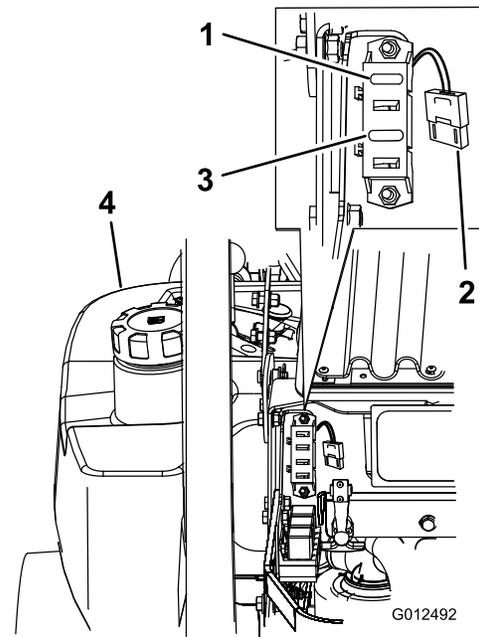

Figure 52
1. Unlatch the engine hood and raise the engine hood to gain access to fuse holder (Figure 52).
3. Install a new fuse (Figure 52).